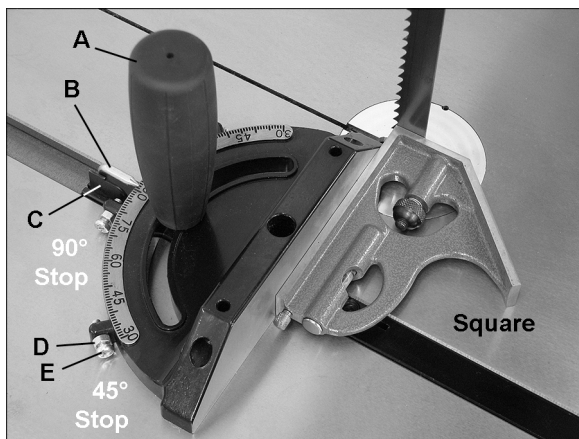

Figure 32
1. Place a square against miter gauge face, and against flat of blade, as shown in Figure 32. (Place square against flat of blade, not against
The 45° stops can be checked in similar fashion, using an angle gauge similar to that shown in Figure 32.
1. Place a square against miter gauge face, and against flat of blade, as shown in Figure 32. (Place square against flat of blade, not against the teeth which are set wider than the blade body). A wide blade is preferred for this procedure.
Adjusting Miter Gauge Angle for Operations (model PM1500, refer to Figure 32):